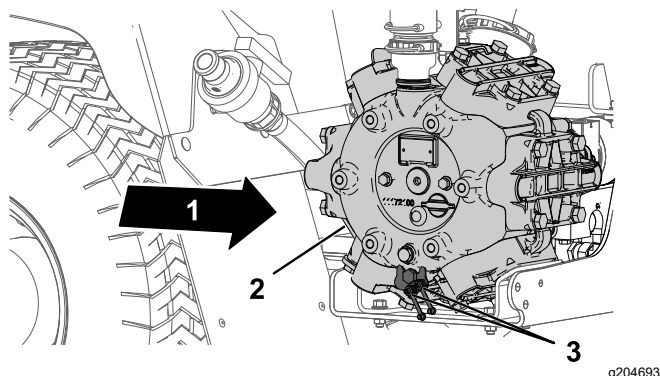

Figure 58
1. Wipe the 2 remote grease fitting clean (Figure 58).
2. Pump grease into the remote grease fitting (Figure 58).